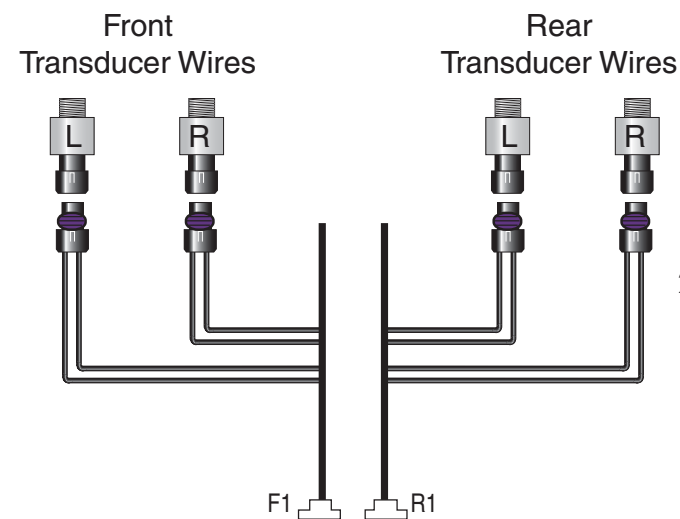

Figure 3
2. Connect the transducer wires to the corresponding transducers on the manifolds (Figure 3).